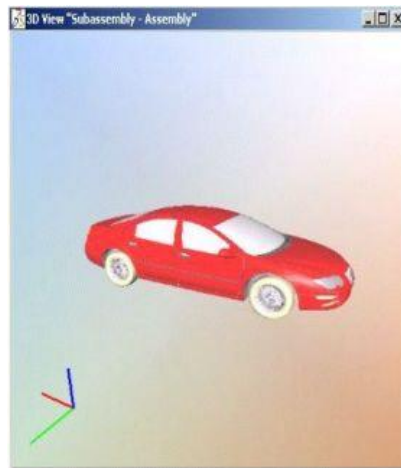
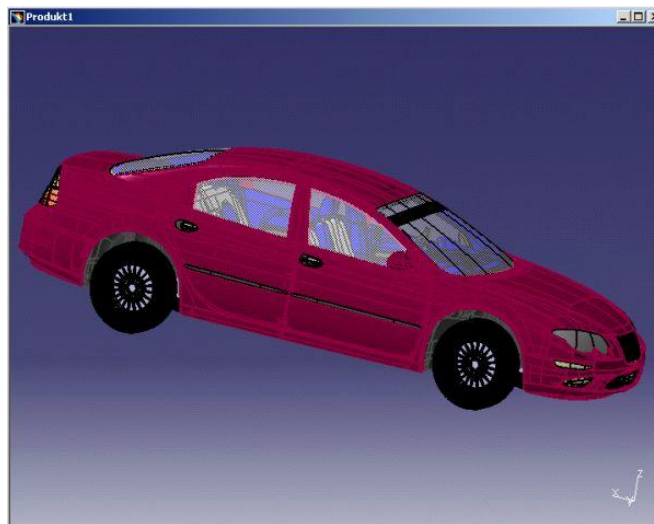

Figure 148: Internal Product View – Entire Picture
Figure 149: Product View from External Program – Entire Picture
- 4) Select the product in the dialog. Then click **OK**. The graphic is opened. Please refer to the Figure 148 and Figure 149.